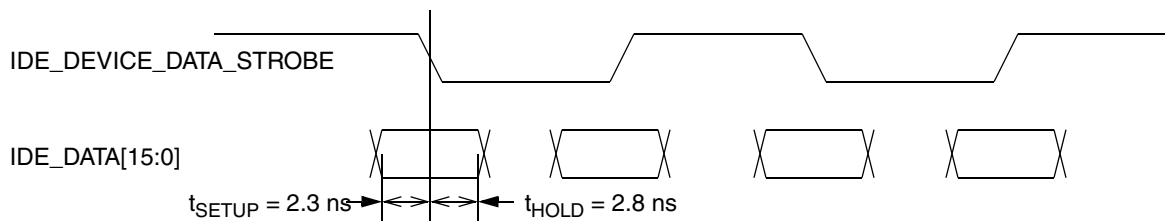

Figure 7-7. IDE UltraDMA Data In Timing
- Note 3. These signals use *Input Reference Timing* (see Figure 7-4 on page 581). Figure 7-7 illustrates their relationship and specified setup and hold times.